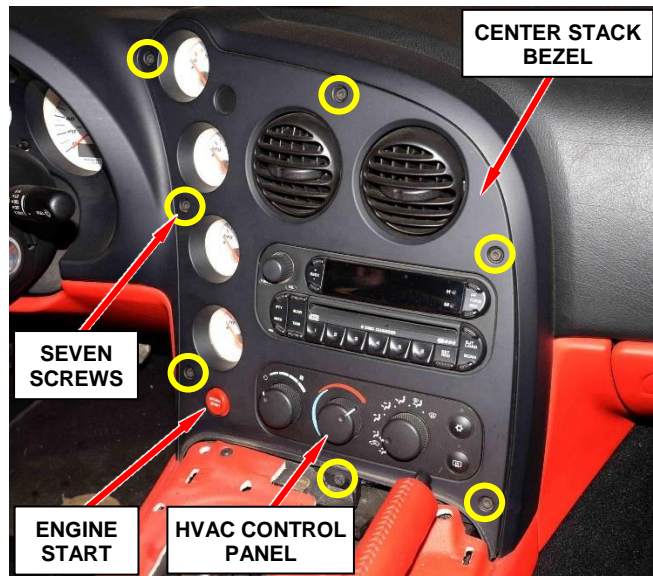

Figure 6 – Center Stack Bezel
13. Remove the seven screws securing the instrument panel center stack bezel (Figure 6).
14. Carefully pull the center stack bezel with HVAC control panel forward to access electrical connectors (Figure 6).
68. Position the center stack bezel to the instrument panel (Figure 6).
69. Install the seven screws securing the center stack bezel to the instrument panel (Figure 6).